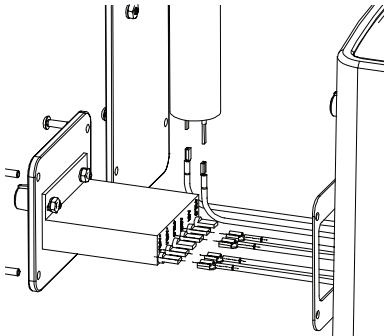

Figure 19: Labscale Pump Module wiring connections
2. Install gasket and make wiring connections as shown in figure 19.